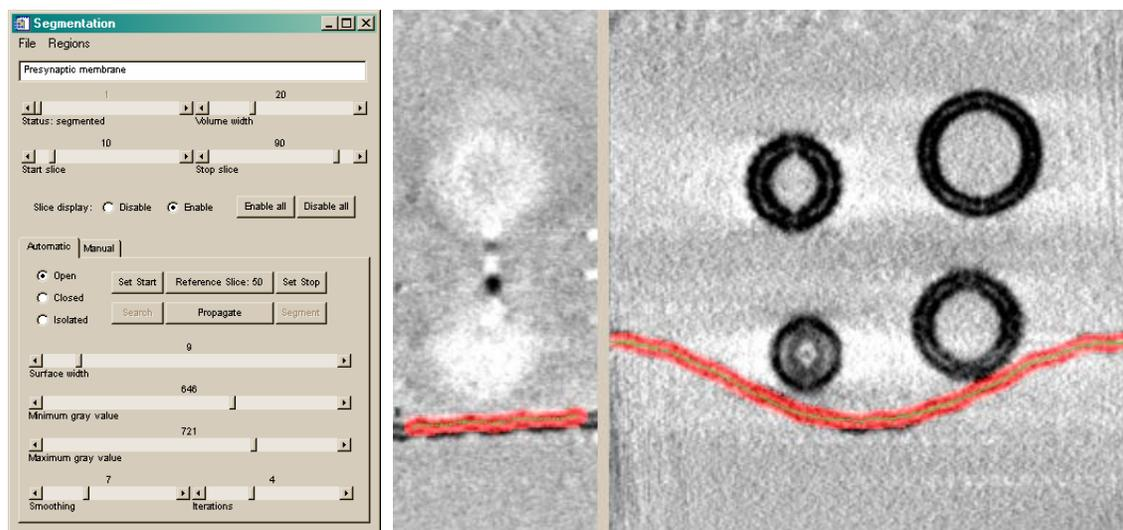

Figure 17: Segmentation control window settings and corresponding propagation results.
12. When the controls have values similar to those shown in Figure 17, press the **Propagate** button. The Visualization window will display the results of the segmentation on each slice as the propagation proceeds.